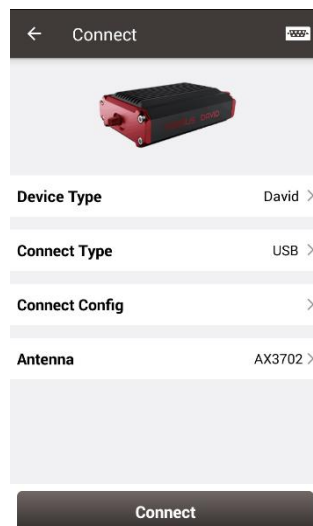

Figure 6.2 Connect David via USB
6. Select [USB] in the option list of Connect Type as shown in Figure 6.2.